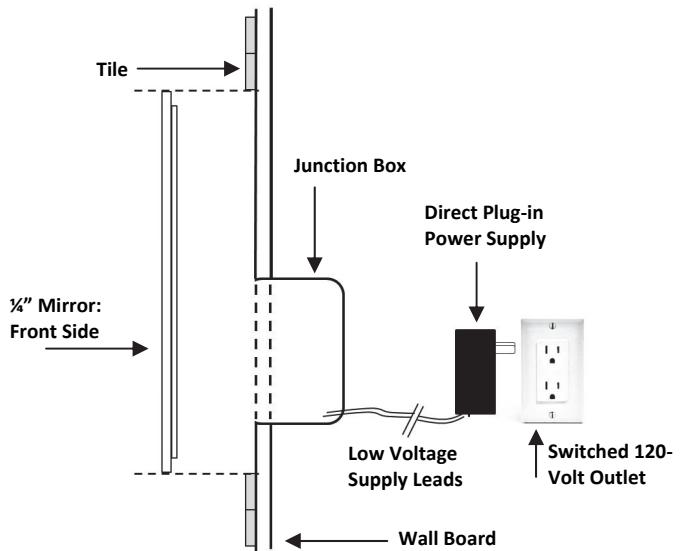

Figure 4. Running the power wires and mounting the mirror to the wall board (side view).
8. Place mirror into the opening keeping a 1/8-inch border around the entire mirror (see Figure 4).